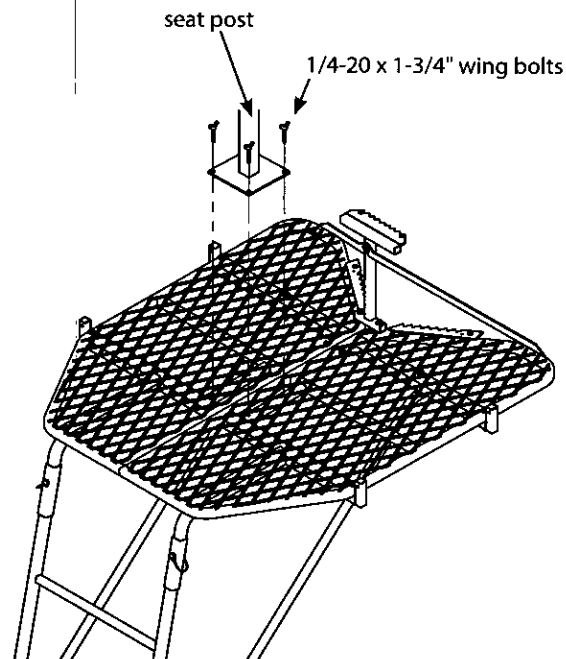

Figure 9
12. Carefully raise the seat assembly to the platform using the hoist rope (**SEE FIGURE 8**) and place seat post on top of the platform and align the 4 holes in seat post plate to the 4 holes located in the center of the platform. Remove (4) wing bolts from your pocket and use them to secure the seat post/seat assembly to the platform. Wing bolts should be inserted from the top and threaded into the nut welds located on bottom side of platform. **TIGHTEN SECURELY BY HAND, SEE FIGURE 9.**